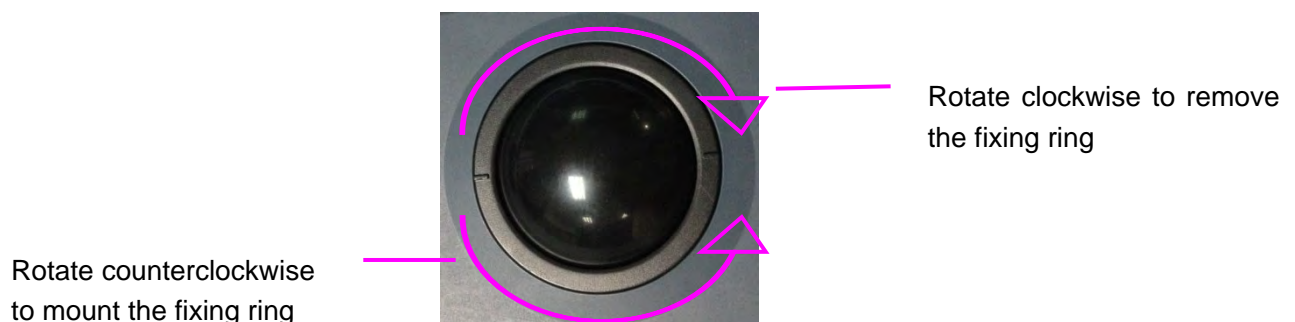

Figure 13-1 Assembling and Disassembling Trackball
2. Remove the trackball as shown in Figure 13-1.